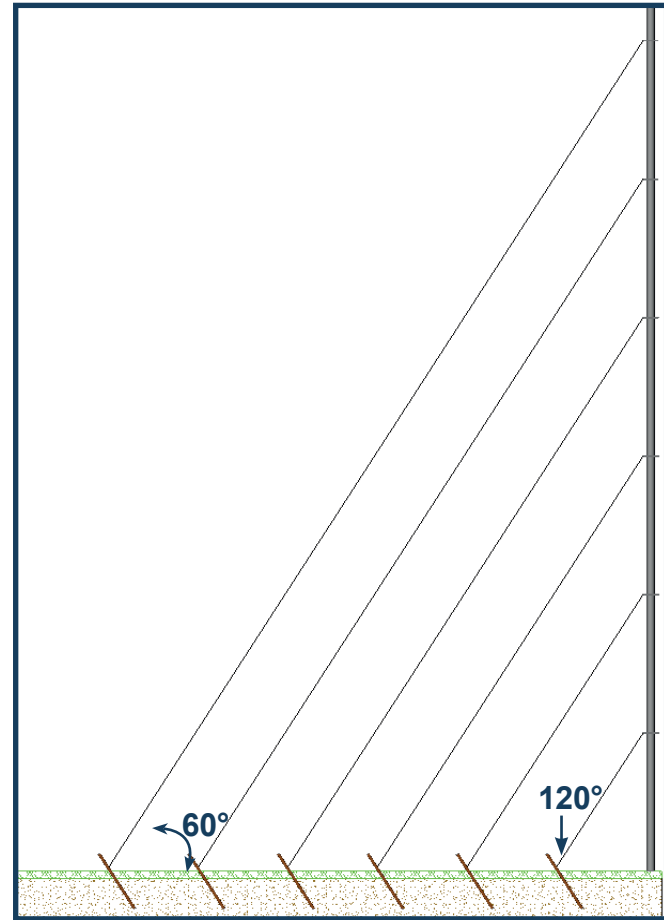

Fig 9 Example Temporary Installation of 6 section mast illustrating 60 degree angle guy wire from base.
- Guy anchors are not included, and at a minimum we suggest 4 x star pickets are installed, per collar ring, spaced evenly at 90 degrees and driven into the ground to a depth of at least 1 metre at 120 degrees (Fig 9). For long-term applications please reach out to our friendly sales team to discuss suggested solutions.
For permanent installations, we have anchored this example mast to four concrete blocks for ultimate stability and safety. Refer to the **Temporary Installation** section and, **Table 2 and Fig 9** for details on using star pickets as an alternative.
For temporary installations, we recommend using star pickets to anchor the guy wires or ropes. At a minimum, 4 star pickets should be installed for each collar ring, spaced evenly at 90 degrees and driven into the ground to a depth of at least 1 metre at 120 degrees (Fig 9).